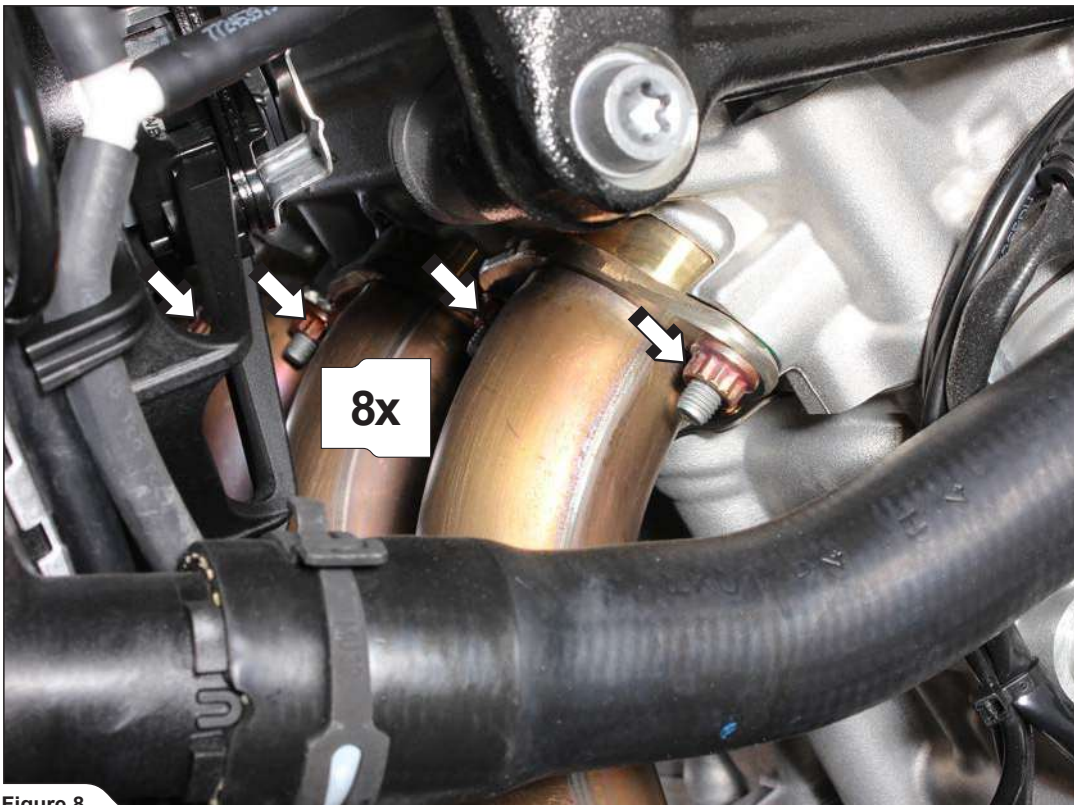

Figure 8
8. Unscrew all flange nuts (**Figure 8**).